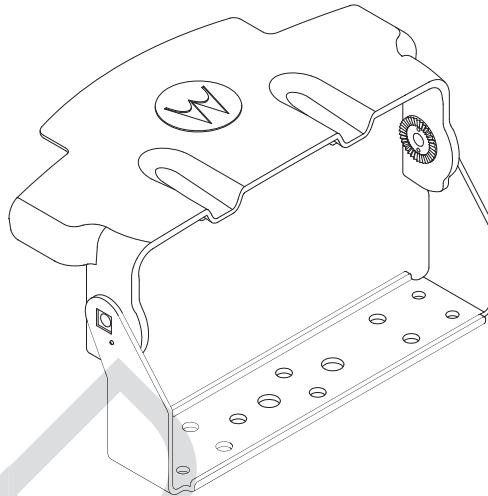

Figure 5-22. Remote Mount Trunnion with Sunshield
1. Assemble the sunshield to the remote mount trunnion as shown in Figure 5-22. The same process can be used for the motorcycle trunnion.